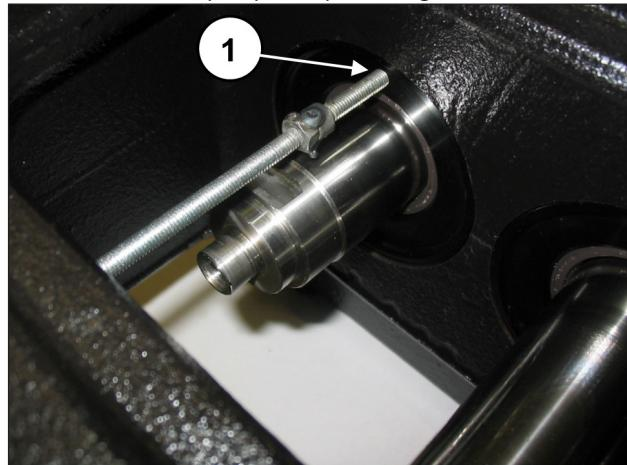
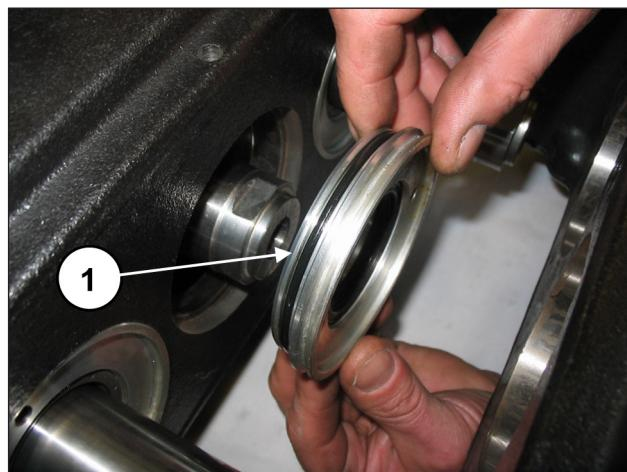

Fig. 3
Fig. 4
Screw a threaded bar or M6 screw, to function as an extractor, into the holes in the oil seal covers (pos. ①, Fig. 3) and remove the covers from the pump unit (pos. ①, Fig. 4).